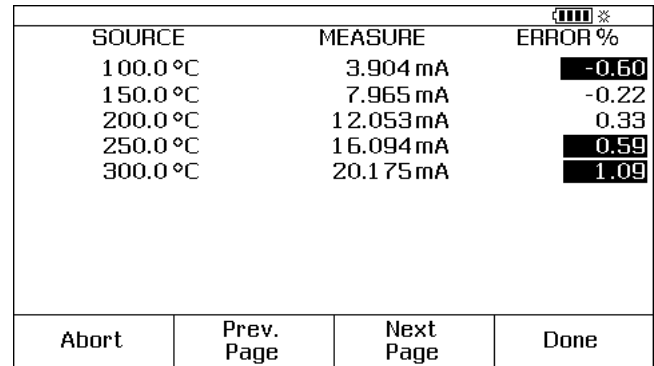

Figure 33. Error Summary Screen
19. The Product moves to the remaining set of points. For temperature and electrical parameter calibration, the points are done automatically. If your source pressure, the Product stops at each step to let you adjust the pressure source. When the tests are complete, an error summary table similar to Figure 33 is shown.